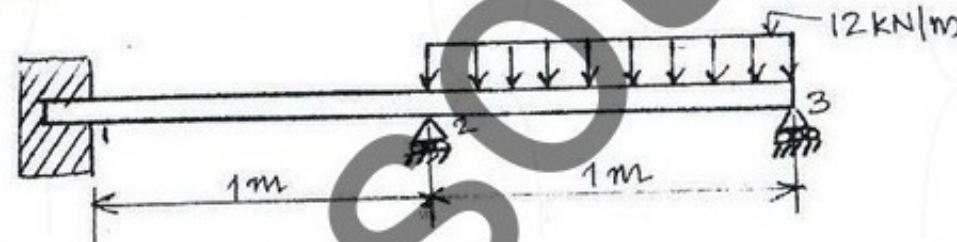

Fig. Q7 (b)
b. For the beam and loading shown in Fig. Q7 (b), determine the slopes at 2 and 3 and the vertical deflection at the midpoints of the distributed load. Take $E = 200 \text{ GPa}$, $I = 4 \times 10^6 \text{ mm}^4$. (12 Marks)